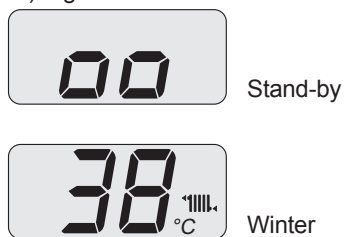

Fig. 2.4
- Turn on the electricity supply to the boiler, switching on the fused spur isolation switch. The LCD display displays the state within which the boiler is found (last memorised) Fig. 2.4.